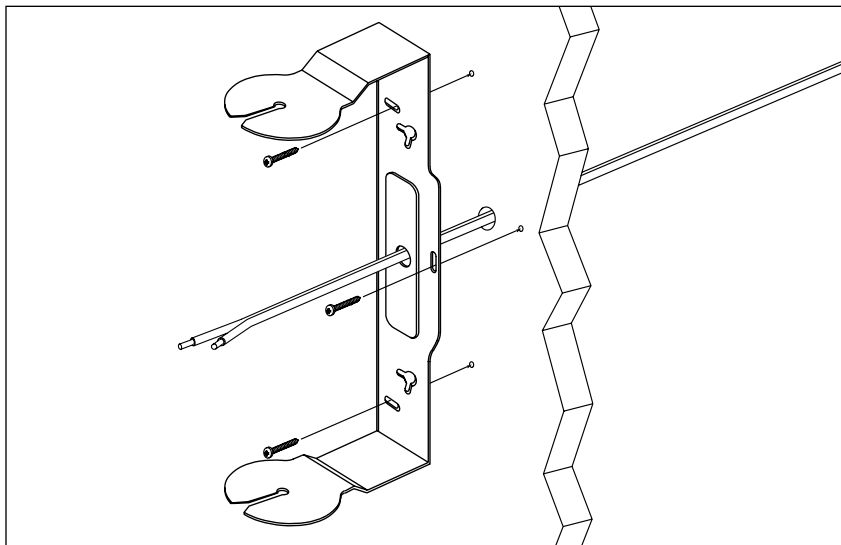

Figure 10. Mounting the bracket
3. Mark the locations of the three oval-shaped screw holes (see **Figure 10**). Be sure to use all of the holes.